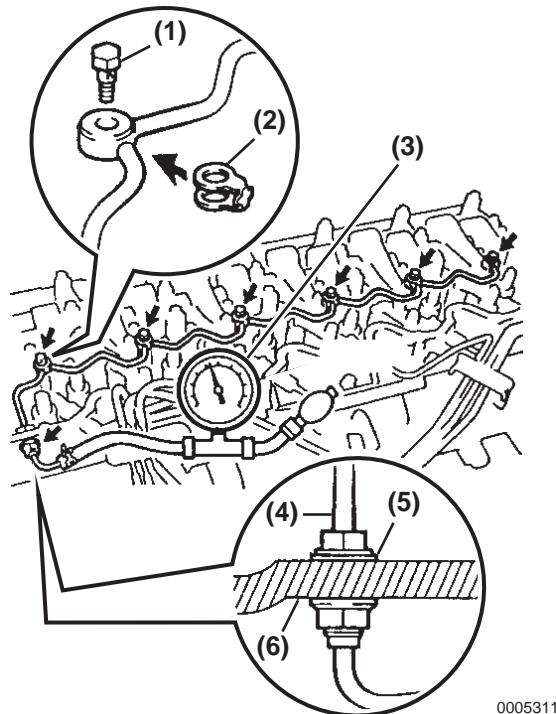

Figure 6-48
- Install gasket (A) so that its joint is located between pipes, as shown in **(Figure 6-48)**.